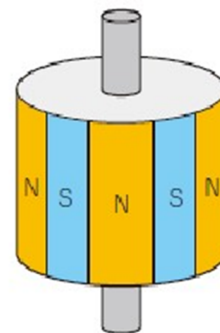

Figure 2 : Rotor (Example of 24 poles and 24 magnetizations)
PM stepping motors' rotating part (rotor) alternately magnetize with north (N) and south (S) poles vertically as seen in Figure 2. A 15° step angle motor combines a total of 24 N and S poles.